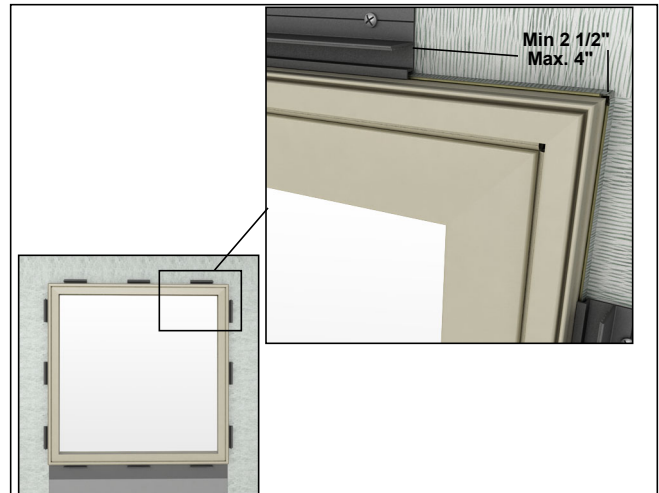

Figure 4
2. Apply casing connection barb to the perimeter of the unit using the step in the profile to align with the unit frame with a minimum spacing of 2 1/2" (63) and a maximum spacing of 4" (102) from each corner (spaced a maximum of 24" (610) on center). See *figure 4*.